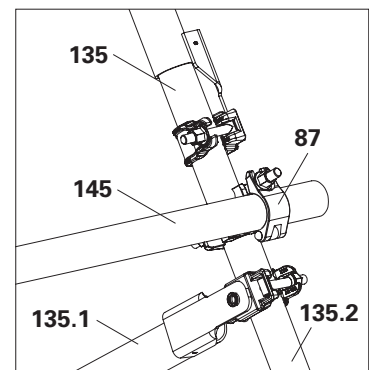

Fig. A15.07a
For bay lengths ≤ 2.5 m, horizontally reinforce each multi brace with a scaffolding tube (145) and standard couplers (87). (Fig. A15.07a)